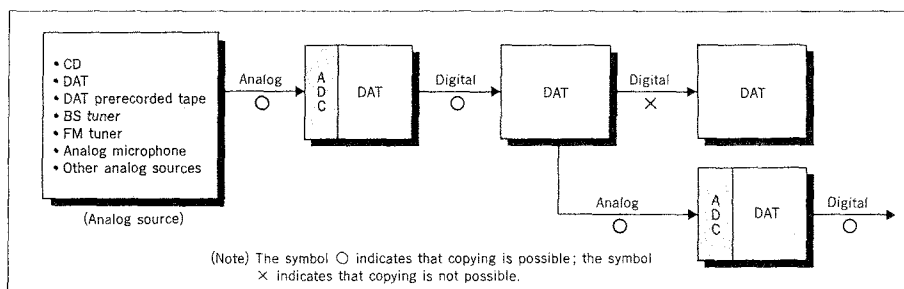

Fig. 6: Digital copying from analog sources
- (2) Tape recorded by DAT from analog sources such as conventional LP records, cassettes and broadcasts can be digitally copied up to the second generation, but third-generation copies cannot be made (See Fig. 6).
- (3) Personal copies made by analog recorder from DATs are not affected by the system.